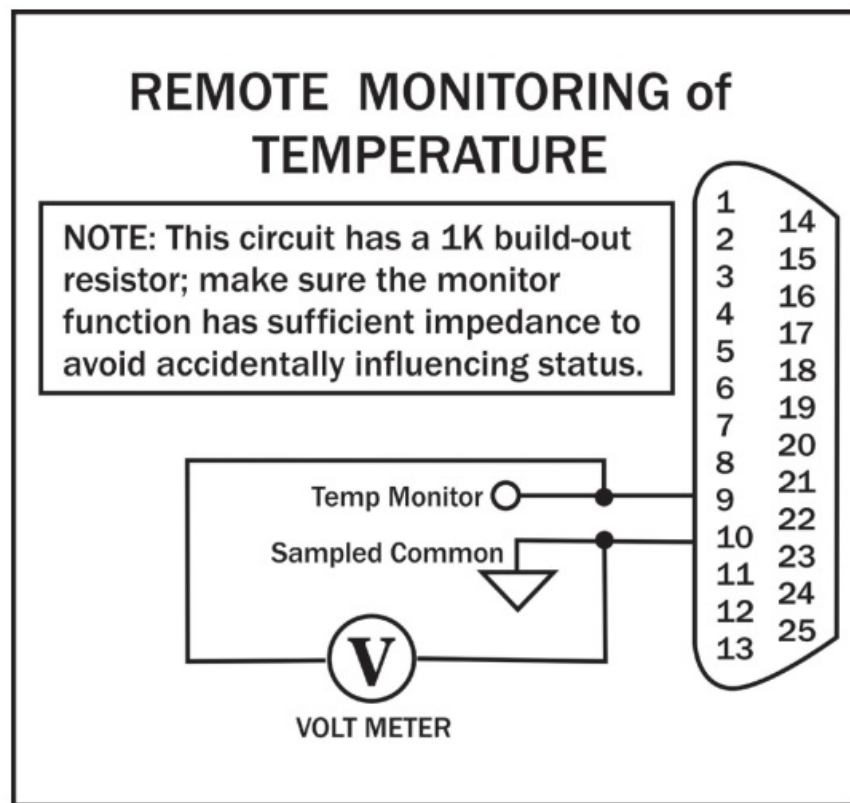

Figure 5.7– Remote Monitoring of Temperature
- Method: Connect a voltage meter to monitor the temperature at the heatsinks of the amplifier. Connect across PIN 9 (TEMP MONITOR) and PIN 10 (Sampled Common). See Figure 5.7.